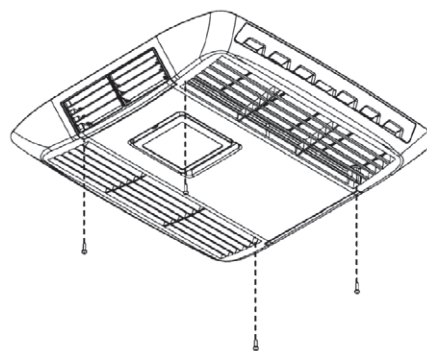

Fig 15: Secure the main plenum cover to the duct assembly with the four.
- Secure the main plenum cover to the duct assembly with the 4 screws provided (Fig 15).